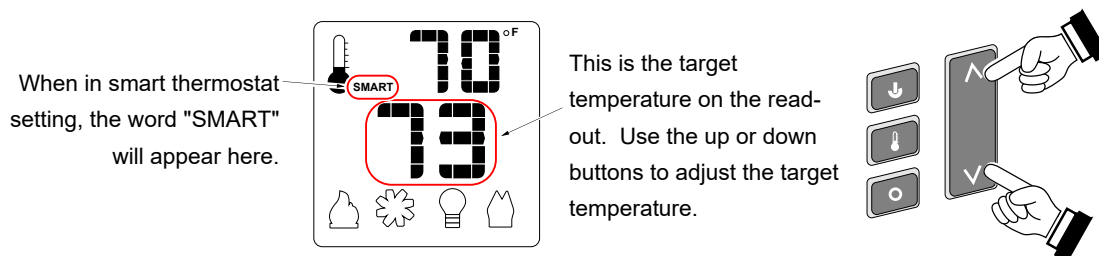

Figure 7
- SMART THERMOSTAT** – While in smart thermostat, the transmitter will control the burner to achieve the target temperature (see Figure 7 below). Flame height will be adjusted up or down to allow operation without turning the burner on and off (also called “smart modulation”). To adjust the target temperature, press the UP and DOWN buttons until a suitable temperature is achieved.